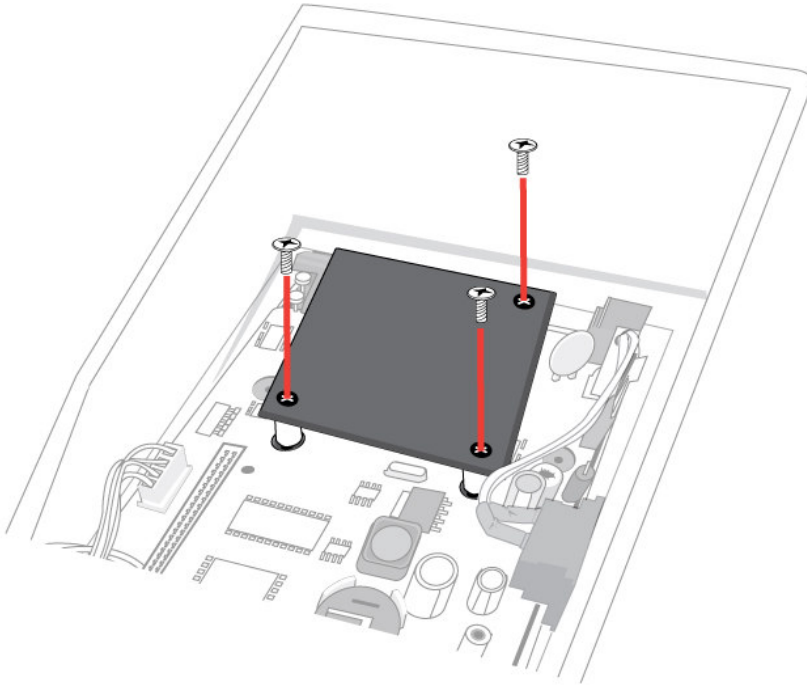

**Figure 10.3.4**
8. Remove the Ethernet card (82) from the main board, and then insert the new Ethernet card (82) to the main board as shown in Fig. 10.3.4.